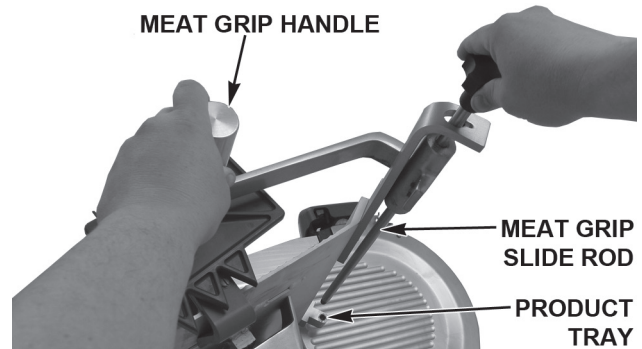

Fig. 24
- Install the Meat Grip Assembly (Fig. 24) on the Product Tray by sliding the Meat Grip Slide Rod into the Meat Grip Handle and Product Tray.